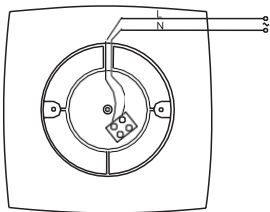

Figure 3A. Wiring diagram
To make the electrical connection, unscrew the screws (2) until the cover (3) comes loose. Next, connect the power cable to the terminal block (E): the neutral wire to terminal N and the live wire to terminal L (Figure 3A – Wiring diagram). Replace the cover (3) on the housing, tightening the screw (2). Then press the front panel (A) until it clicks securely into the latch (7) and the front cover latch (1) (Figure 2 – Fan components).